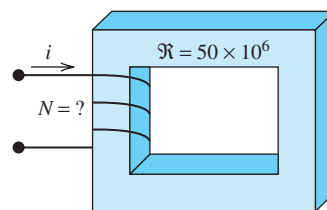

FIGURE P12.28 The structure for Problem 12.28.
12.28 (A)* Given a coil wrapped on a core having a reluctance of $\mathfrak{R} = 50 \times 10^6$ (see Figure P12.28), find the number of turns, N , required to produce an inductance of 20 mH. Note: use $1/H$ for the unit of reluctance.